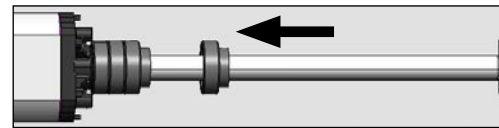

Fig. 14
14. If an opening mechanical stop on ground is not installed, spacers can be used (Fig. 1 re. ⑦). Remove the front articulated joint and insert on the rod the number of spacers required to reach the desired opening angle (Fig. 14).